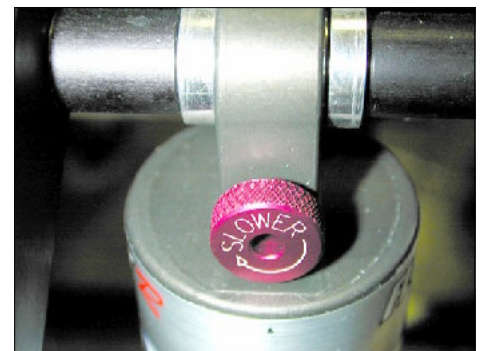

Figure 12
1. For the variable shock pressure adjustment use the supplied hand pump (3), pump the shock up to the required pressure to give the particular user adequate support.
2. Damping control: (Refer to figure 12) Turn red knob clockwise to increase damping (slow rate of return) and counter-clockwise to decrease.